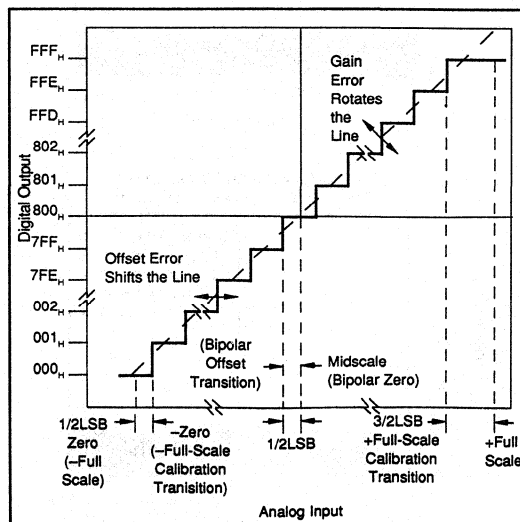

FIGURE 1. Transfer Characteristic Terminology.
Refer to Figure 1 for an illustration of A/D converter DC parameter terminology.
**Full Scale Error**—The deviation from the ideal value of the input at the last code midpoint ( $V_{FS} - 1$ LSB). As with the linearity error measurements, code transition values are the locations actually measured for this spec. The ideal Full Scale transition value is  $FSR - 3/2$ LSB for unipolar input converters and  $FSR/2 - 3/2$ LSB for bipolar input A/D converters. Full Scale Error is expressed in % of FSR or in LSBs. Refer to Figure 1.
**Bipolar Zero Error** is defined as the deviation of the actual mid-scale-code midpoint value of the input from the ideal mid-scale value (i.e. at ZERO volts). The transition value actually measured is  $1/2$ LSB below zero input and has a value of  $FSR/2 - 1$ LSB. Refer to Figure 1. Bipolar Zero Error is the sum of the Bipolar Offset Error,  $1/2$  the Gain Error, and the Linearity Error. It is measured, rather than calculated to avoid tolerance buildup resulting from summing the tolerances of each spec.